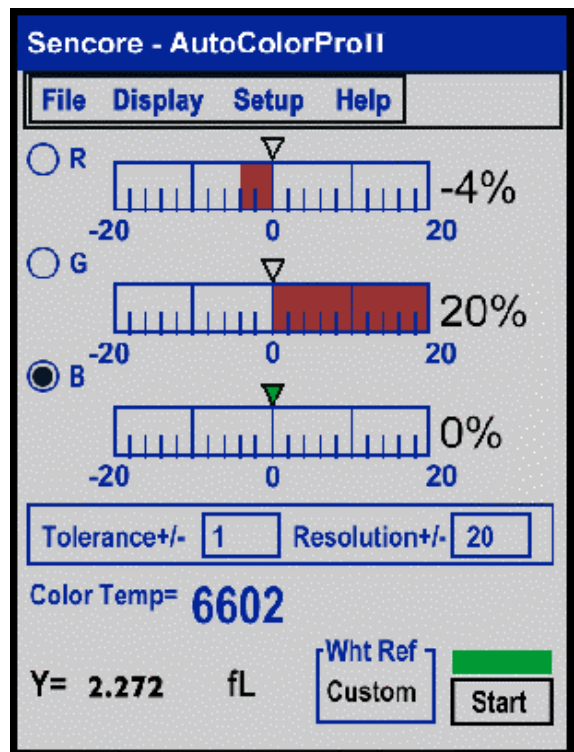

Fig. 7: The CP291 Delta RGB display shows the comparative levels of each CRT needed to obtain the selected color temperature.
6. Closing the Setup display automatically opens the measurement display. Select the Delta RGB display by tapping on "Display" in the menu bar, then tap the "Delta RGB" menu item. This will open the Delta RGB display, shown in Figure 7. (As you become more familiar with White Balance, you may choose to use either of the other two measurement displays options).
The display in Figure 7 shows that the cutoff for the red CRT needs to be increased 4% and the cutoff for the green CRT control needs to be decreased 20%. The blue bar graph is at zero reference, as indicated by the highlighted circle to the left of it.